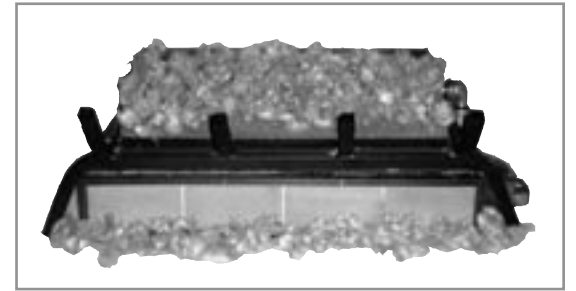

Figure 5 - Glowing Ember placement
B. Spread glowing embers (Part #17) evenly over the top of the granules on the burner pan (See Figure 5).
1. For maximum heat output, only cover the lower portion of the burner as shown in figure 5.
Do not hold match in hand (See Figure 5).